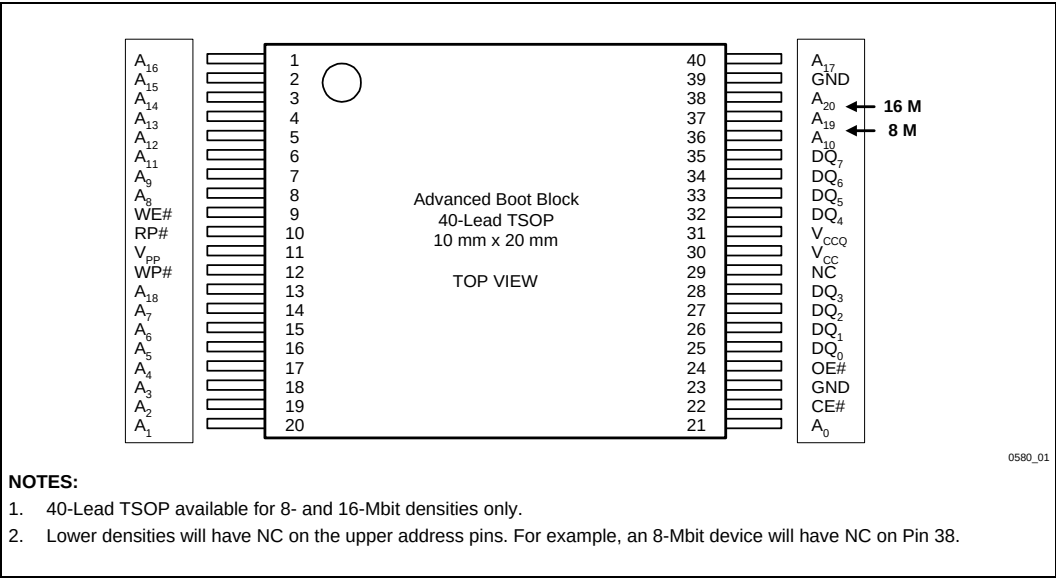
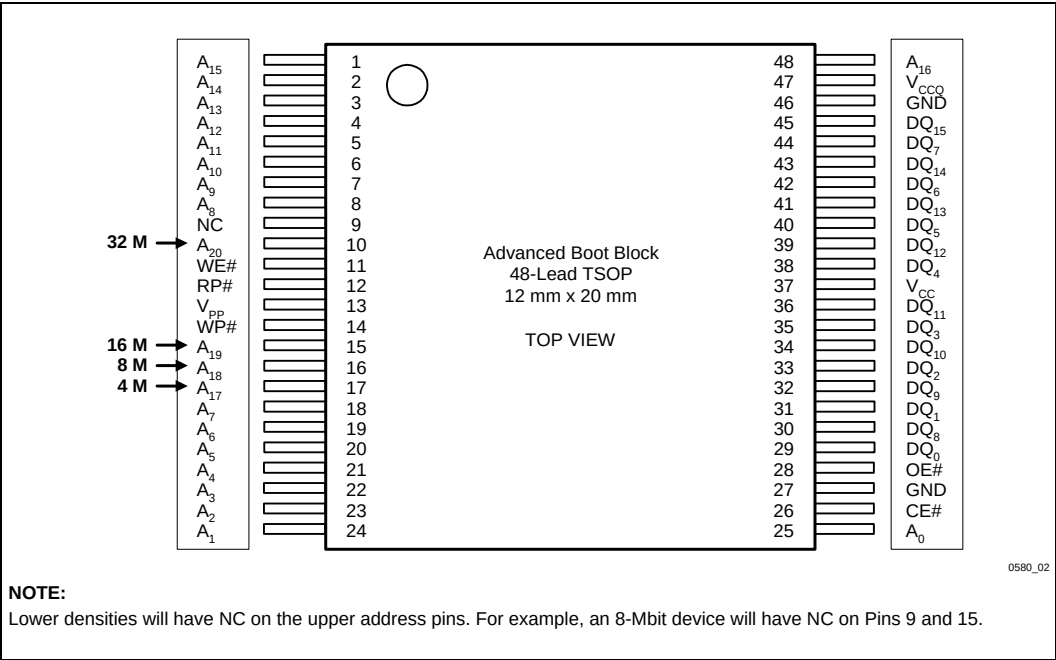
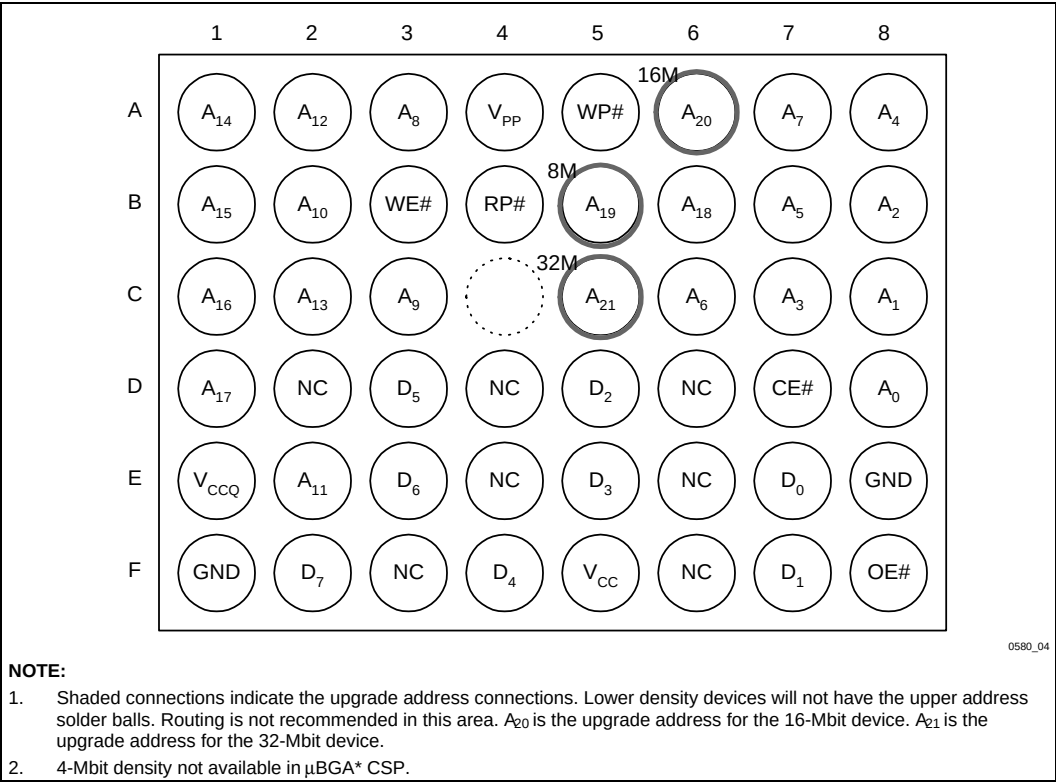
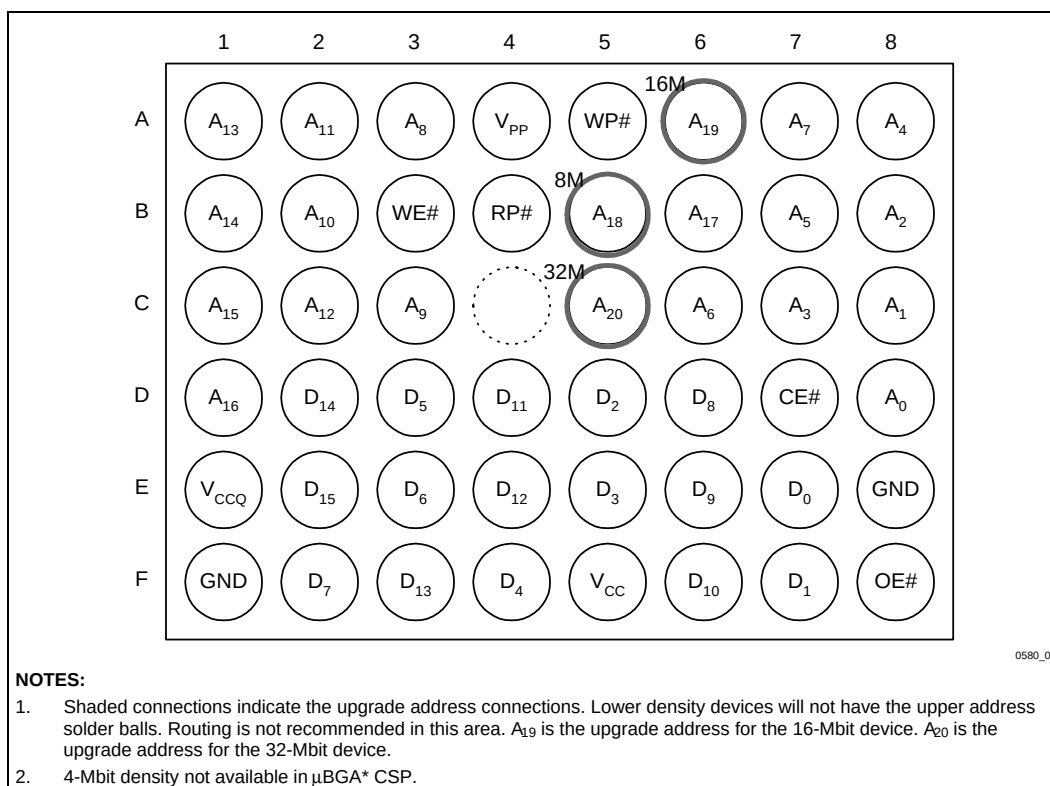

Figure 1. 40-Lead TSOP Package for x8 Configurations
Figure 2. 48-Lead TSOP Package for x16 Configurations
Figure 3. x8 48-Ball μ BGA* Chip Size Package (Top View, Ball Down)
Figure 4. x16 48-Ball μ BGA* Chip Size Package (Top View, Ball Down)
-005	µBGA package diagrams corrected (Figures 3 and 4) I_{PPD} test conditions corrected (Section 4.4) 32-Mbit ordering information corrected (Section 6) µBGA package top side mark information added (Section 6)
- V_{CCQ} input of 1.65 V–2.5 V on all I/Os. See Figures 1 through 4 for pinout diagrams and V_{CCQ} location
The Smart 3 Advanced Boot Block flash memory is available in 40-lead TSOP (x8, Figure 1), 48-lead TSOP (x16, Figure 2) and 48-ball μ BGA packages (x8 and x16, Figure 3 and Figure 4 respectively). In all figures, pin changes necessary for density upgrades have been circled.